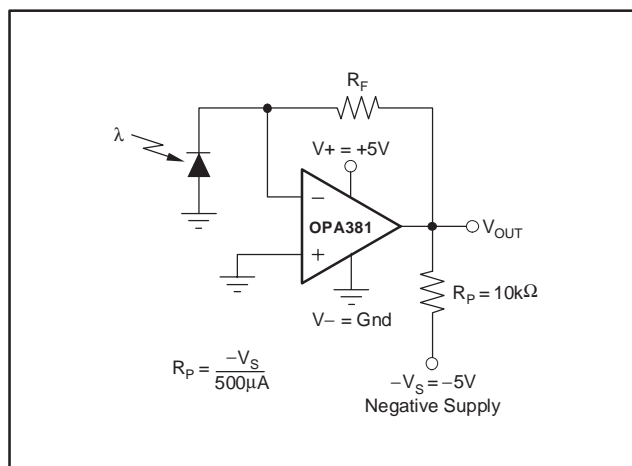

Figure 3. Amplifier with Pull-Down Resistor to Achieve $V_{OUT} = 0\text{V}$
- (1) High temperature operating life characterization of zero-drift op amps applying the techniques used in the OPA381 have repeatedly demonstrated randomly distributed variation approximately equal to measurement repeatability of $1\mu V$. This consistency gives confidence in the stability and repeatability of these zero-drift techniques.
- (2) Tested with output connected only to R_P , a pulldown resistor connected between V_{OUT} and $-5V$, as shown in Figure 3. See also **Applications** section, *Achieving Output Swing to Negative Rail*.
- (3) Transimpedance frequency of 250kHz.
- (4) Time required to return to linear operation.
- (5) From positive rail.
The OPA381 performance results from an internal auto-zero amplifier combined with a high-speed amplifier. The OPA381 has been designed with circuitry to improve overload recovery and settling time over that achieved by a traditional composite approach. It has been specifically designed and characterized to accommodate circuit options to allow 0V output operation (see Figure 3).
The output of the OPA381 can be made to swing to 0V, or slightly below, on a single-supply power source. This extended output swing requires the use of another resistor and an additional negative power supply. A pull-down resistor may be connected between the output and the negative supply to pull the output down to 0V; see Figure 3.